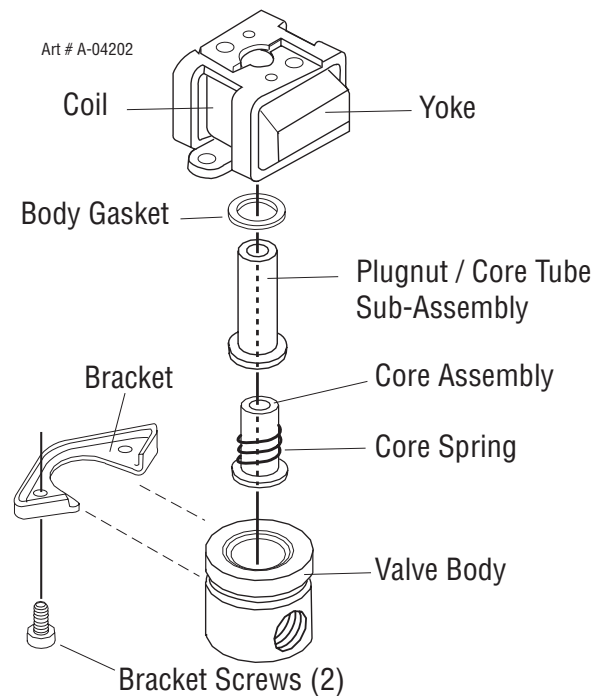

Figure 5-2: Gas Valve Assembly
3. Remove the (2) bracket screws and bracket from the yoke of the gas valve.
8. Reassemble the gas valve in reverse order of disassembly paying careful attention to Figure 5-2.